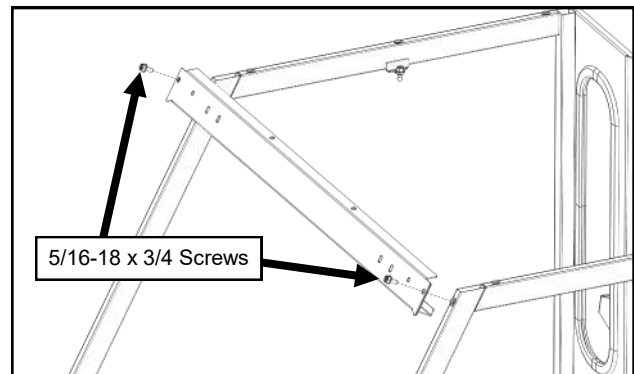

Fig. 6.1 (Attach Windshield Support)
- 6.1 With assistance, hold the windshield support in place and attach with a screw in the top of each side frame. See Figure 6.1.